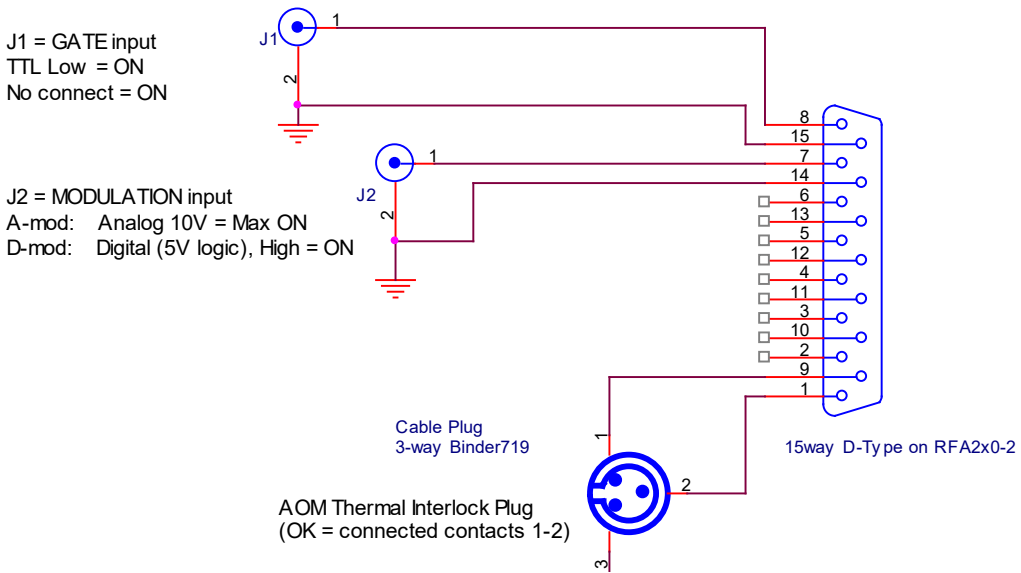

Figure 3: Connections
Refer to Figures 3,4,5. Use of a Corrosion inhibitor is strongly advised.
3.4 Connect the Interlock of the acousto-optic modulator (Binder 719 3-pin snap connector) to the enable inputs on the 15-pin D-type connector of the RFAxx0-2. Connect pin 1 of 15wD-type to the pin 2 and pin 9 of 15wD-type to the pin 1. (See Figure 3)